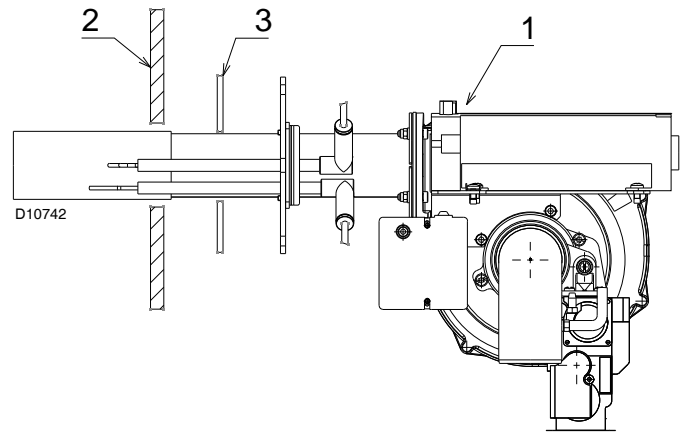

Fig. 8
- fix the burner 1)(Fig. 8) to the boiler door 2) using the 4 screws and (if necessary) the 4 nuts supplied to the standard equipment, interposing the insulating gasket 3).